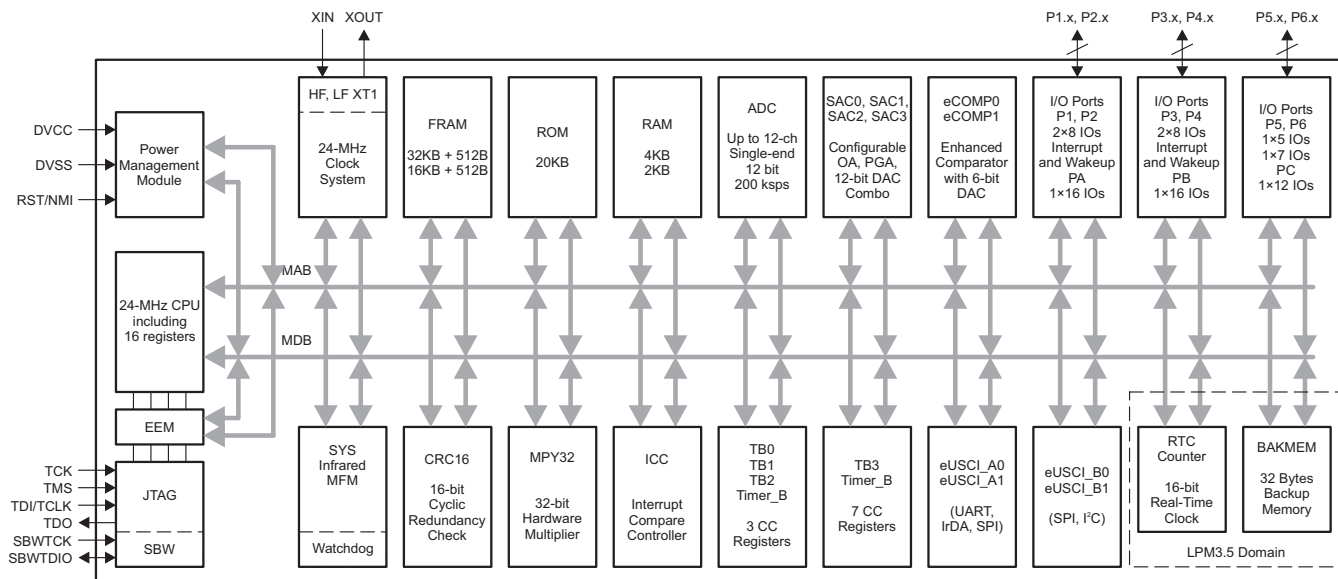
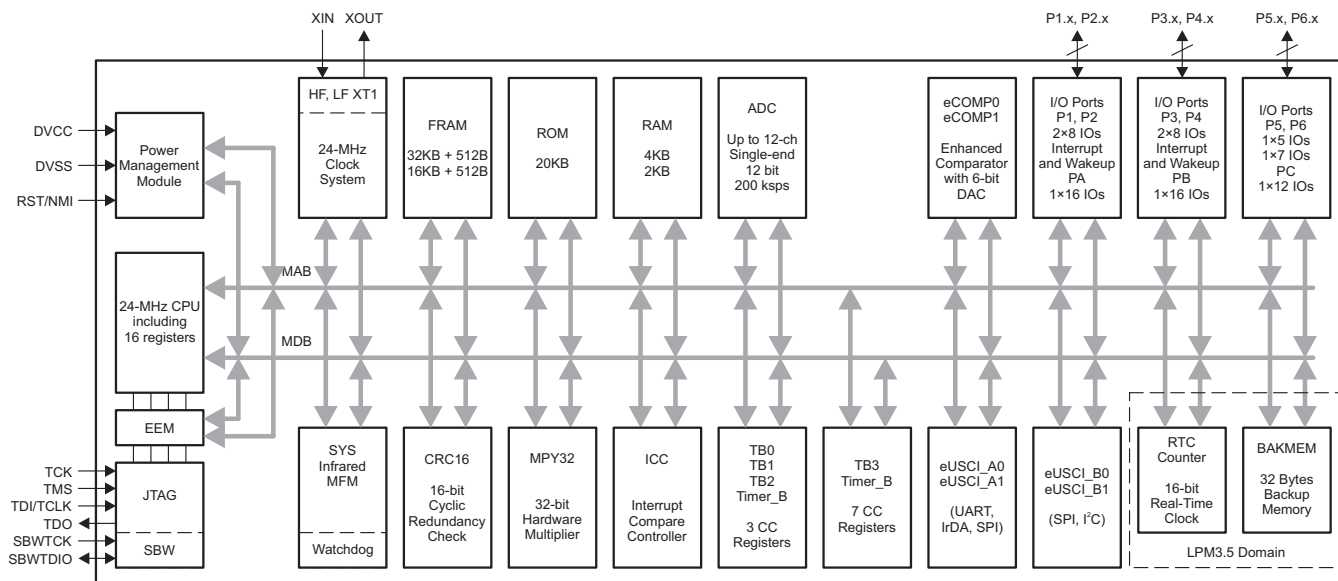

Figure 1-1. MSP430FR235x Functional Block Diagram
Figure 1-2. MSP430FR215x Functional Block Diagram
Figure 1-1 shows the MSP430FR235x functional block diagram.
Figure 1-2 shows the MSP430FR215x functional block diagram.
- Corrected the ROM size in Figure 1-1 MSP430FR235x Functional Block Diagram and Figure 1-2 MSP430FR215x Functional Block Diagram 4 - Added a note on all VQFN pinouts to indicate that the thermal pad should be connected to VSS 11 - Corrected Figure 4-4, 32-Pin RSM (VQFN) (Top View) – MSP430FR235x..... 13 - Changed the note that begins "Supply voltage changes faster than 0.2 V/μs can trigger a BOR reset..." in Section 5.3, Recommended Operating Conditions 27 - Added the note that begins "TI recommends that power to the DVCC pin must not exceed the limits..." in Section 5.3, Recommended Operating Conditions 27 - Changed the note that begins "A capacitor tolerance of ±20% or better is required..." in Section 5.3, Recommended Operating Conditions 27 - Combined former sections 5.8 and 5.10 into Section 5.9, Production Distribution of LPM Supply Currents 31 - Corrected the "SVS disabled" condition for Figure 5-1 31 - Added the note "See MSP430 32-kHz Crystal Oscillators for details on crystal section, layout, and testing" to Table 5-3, XT1 Crystal Oscillator (Low Frequency) 35 - Changed the note that begins "Requires external capacitors at both terminals..." in Table 5-3, XT1 Crystal Oscillator (Low Frequency) 35 - Added the $t_{TB, cap}$ parameter in Table 5-13, Timer_B..... 45 - Corrected the test conditions for the R_I parameter in Table 5-20, ADC, Power Supply and Input Range Conditions. 51 - Removed ADCDIV from the equation for the ADC conversion time because ADCCLK is after division in Table 5-21, ADC, Timing Parameters 51 - Added the note that begins "$t_{Sample} = \ln(2^{n+1}) \times \tau$..." in Table 5-21, ADC, Timing Parameters 51 - Changed the unit from "nV" to "μV" for the "Input noise voltage" in the Table 5-25, SAC, OA 55 - Changed the unit from "nV/√Hz" to "nV/√Hz" for the "Input noise voltage density" in the Table 5-25, SAC, OA 55 - Removed the I_{ref} trim parameter from Table 5-27, FRAM 57 - Changed the bitfield name from RTCCLK to RTCCSEL in the table note on Table 6-9, Clock Distribution 68 - Added Section 6.10.17, Cross-Chip Interconnection (SACx are MSP430FR235x Devices Only) 83 - Added P1SELC information in Table 6-41, Port P1, P2 Registers (Base Address: 0200h) 86 - Added P2SELC information in Table 6-41, Port P1, P2 Registers (Base Address: 0200h) 86 - Added P3SELC information in Table 6-42, Port P3, P4 Registers (Base Address: 0220h) 87 - Added P4SELC information in Table 6-42, Port P3, P4 Registers (Base Address: 0220h) 87 - Added P5SELC information in Table 6-43, Port P5, P6 Registers (Base Address: 0240h) 87 - Added P6SELC information in Table 6-43, Port P5, P6 Registers (Base Address: 0240h) 87 - Changed CRC covered end address to 0x1AF7 in table note (1) in Table 6-70, Device Descriptors 107